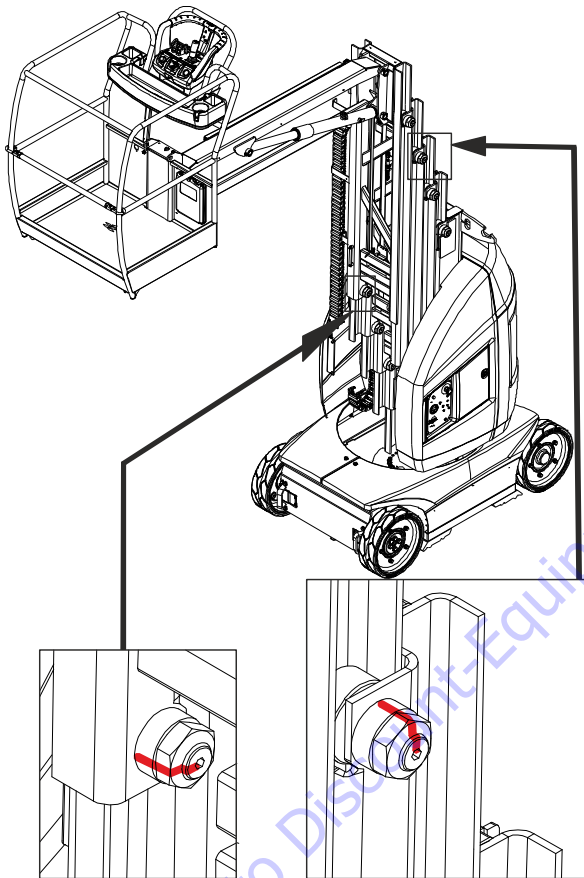

Figure 5-29. Top and Bottom Rollers
- Visual marking is required: mark the rollers with a paint mark as shown in (See Figure 5-29.)